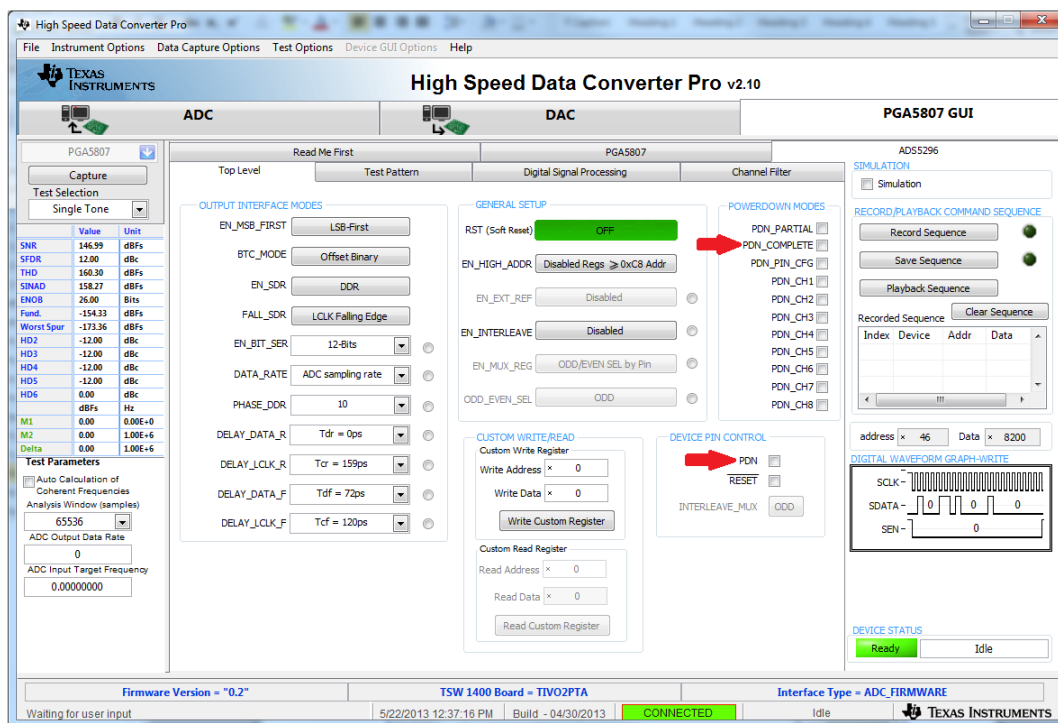

Figure 31. ADS5296 Tab of the PGA5807 GUI
As shown in Figure 31, the ADS5296A tab contains all controls pertaining to the ADS5296A device installed on the EVM.
- Verify that communication between the PGA5807A EVM and the PGA5807 GUI is established by toggling either the **PDN\_COMPLETE** checkbox or the **PDN** checkbox, as indicated on Figure 31. Checking either box should make +5-V power supply current drop from ~650 mA – 750 mA to ~350 mA – 450 mA. If the DC current is approximately 480 mA, with both power down boxes unchecked, it indicates that the ADS5296A is not receiving the sampling clock. Please ensure that the 3-pin headers are configured as described in Section 3.2. Before continuing, ensure that both power down boxes are left unchecked. At this point, the GUI is confirmed to be communicating correctly with the EVM and testing can begin.